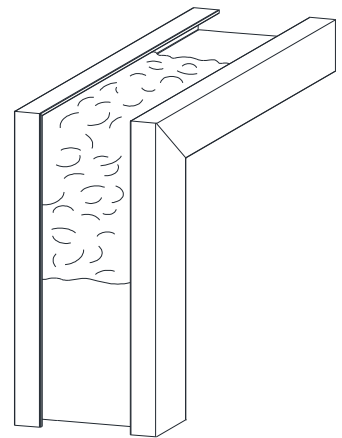

Figure 6:
- Seal frame and vent joints completely with compatible sealant. Apply a heavy bead of sealant to the interior side where the frame jamb and sill join. Sealant must cover the entire joint (from the flange to the inside leg) and extend 1 1/2" up the jamb and along the sill (Figure 6).